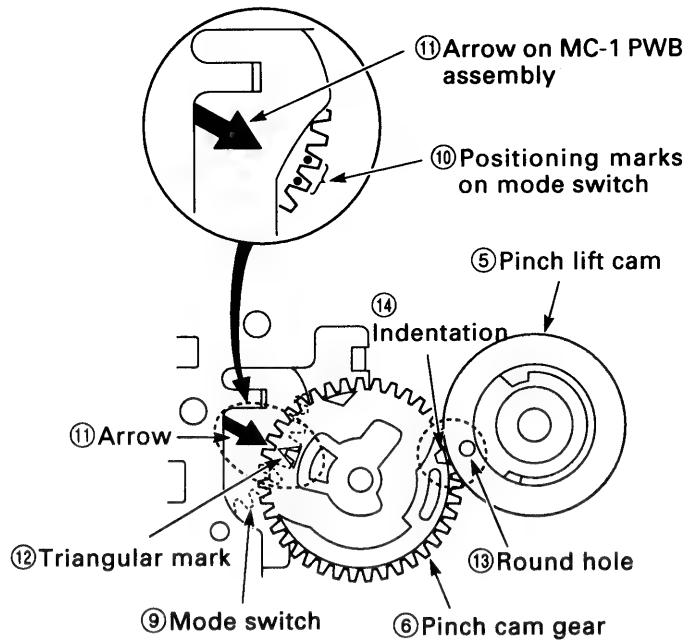

Fig.3-9-3
1. Apply grease (VHJ-0100) around the shaft ⑦, all over the teeth ⑧ of the pinch cam gear ⑥, all over the teeth of the pinch lift cam ⑤, all over the cam grooves ⑨, and all over the "V Part ⑩" of the opener mounting ③. Apply grease (VHJ-0101) to the outside of the shaft ⑧ and all over the top cam ⑪ of the pinch cam gear ⑥.
2. Check that the positioning mark ⑫ on the mode switch ⑬ is aligned with the arrow ⑪ on the MC-1 PWB assembly, as shown in Fig.3-9-3. Then align the triangular mark ⑭ on the pinch cam gear ⑬ with the arrow ⑪ on the MC-1 PWB assembly. After that, align the round hole ⑮ on the pinch lift cam ⑤ with the indentation ⑯ on the pinch cam gear ⑬.